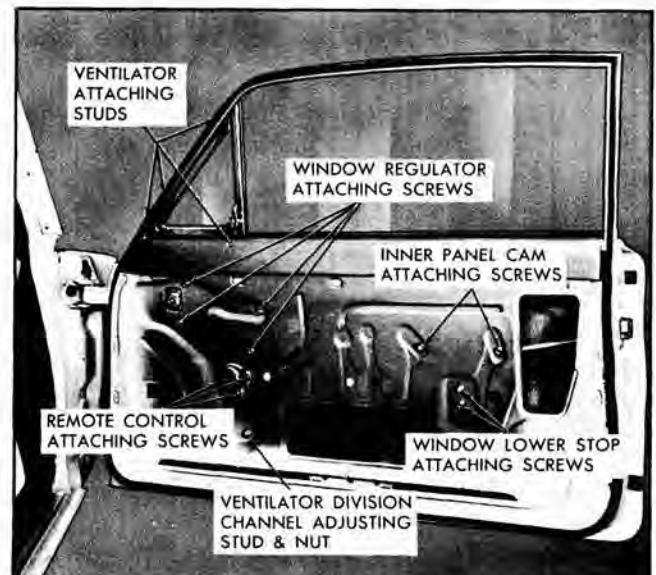

Fig. 13-17 Door Hardware Attachments
4. Carefully lower door window to extreme down position. Remove three door window frame to ventilator attaching screws and one inner panel to ventilator attaching screw (Fig. 13-17).
1. To adjust ventilator division channel in or out or fore or aft, remove door trim assembly and detach inner panel water deflector sufficiently to loosen division channel lower adjusting stud nut. Adjust stud in or out as required or position channel fore or aft as required; then tighten stud nut. Seal water deflector and install door trim and inside hardware (Fig. 13-17).
2. Remove two (2) inner panel cam attaching bolts (Fig. 13-17).